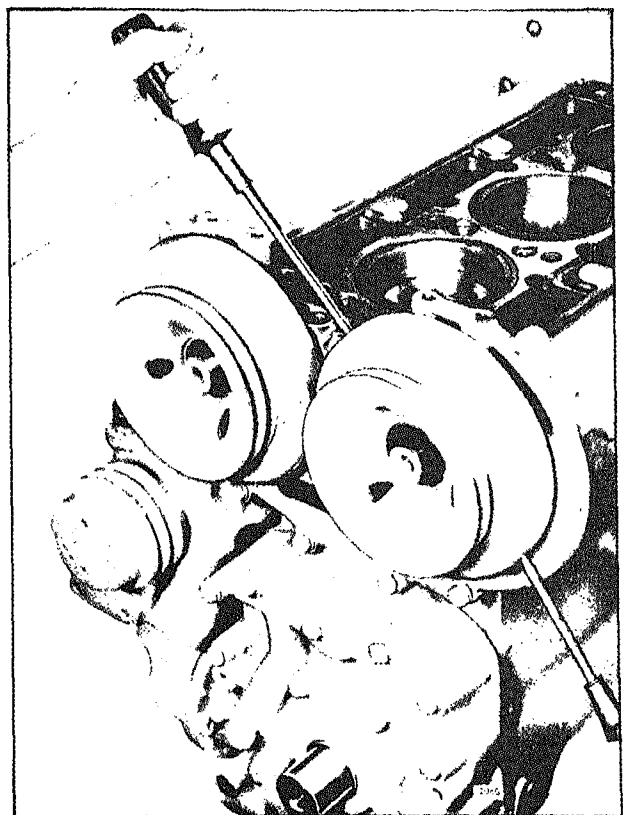

Fig. 1 - Removing Front Balance Weight (Pulley Type)
2. Force the balance weight off the end of each shaft, using two screw drivers or pry bars between the balance weight and the upper front cover as shown in Fig. 1.
Fig. 1 of Section 1.7.2 and tighten the gear retaining nuts to 300-325 lb-ft torque. Then tighten the front balance weight retaining nuts to 300-325 lb-ft torque. Remove the rag from the gears.